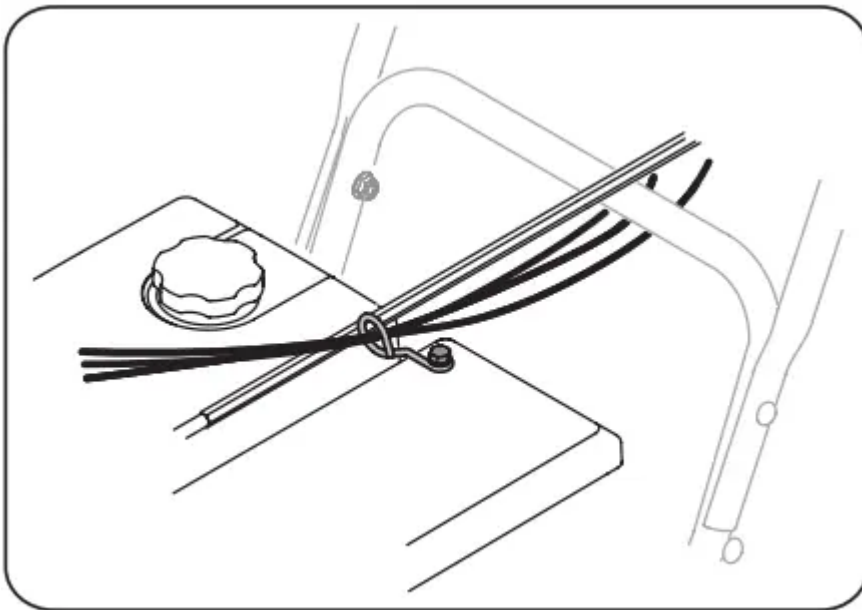

Figure 40
1. Locate cable guide on top of engine and ensure cable(s) are properly routed through the cable guide. See Figure 40